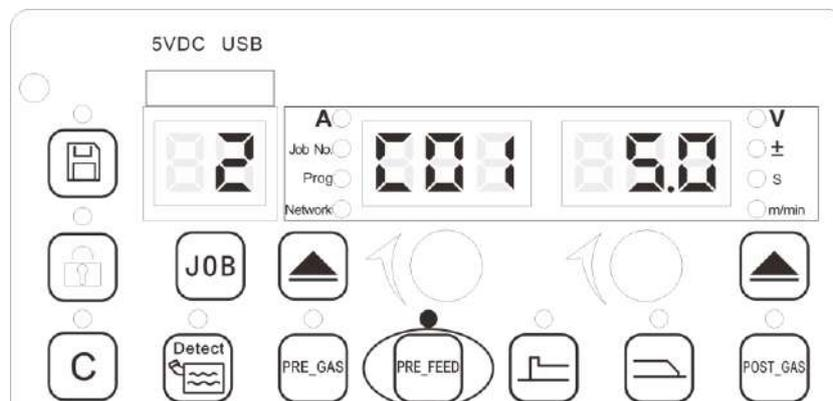

Figure 3-20 Parameters setting view of Pre-feeding
1. Press the “Pre-feed” button to activate the pre-feed function and wait for the indicator turns on, the view for Pre-feed is shown in Figure 3-20.